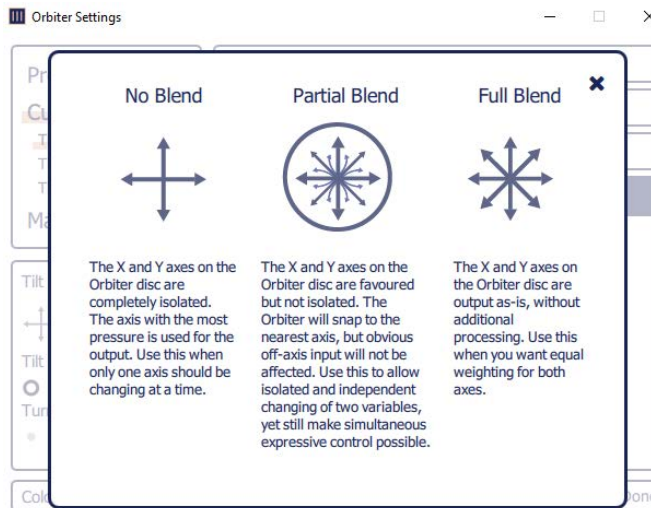

Figure 80 - Blend Modes for Orbiter Disc
6. In the **Tilt Mode** box, select the Blend Mode you want to assign the Orbiter disc (Figure 80).